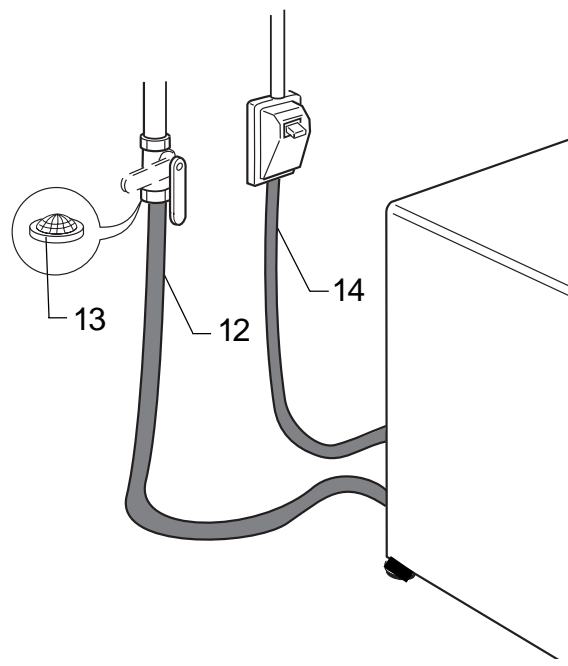

Fig. 7
- Screw the end of the fill pipe (12) to a 3/4" G threaded cock, fitting the filter (13 Fig. 7) in between.